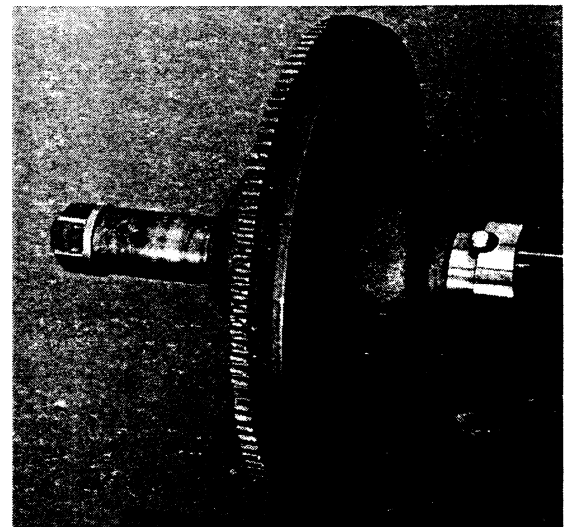

Figure 52
7. Using the handwheel for the disc slide, position the tool bar with the cutting bit at the innermost contact surface (Figure 52). Lock the disc feed hand nut. Having previously determined the amount of material you plan to remove from the workpiece, use the handwheel for the drum slide to set the desired depth of cut and tighten the drum slide tension lock.